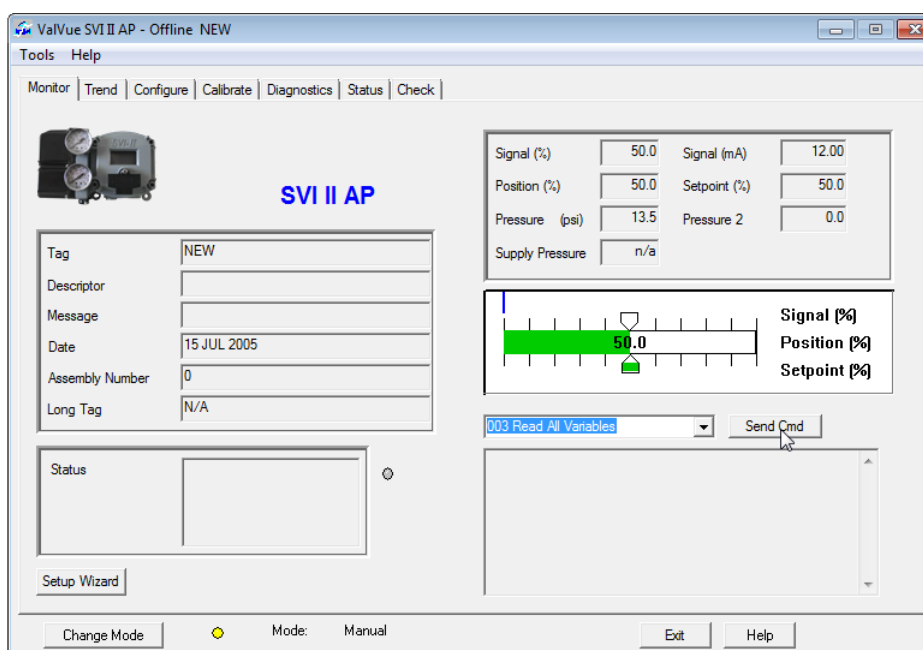

Figure 54 Executing Send Command
2. Click **Send Cmd** button (Figure 54).